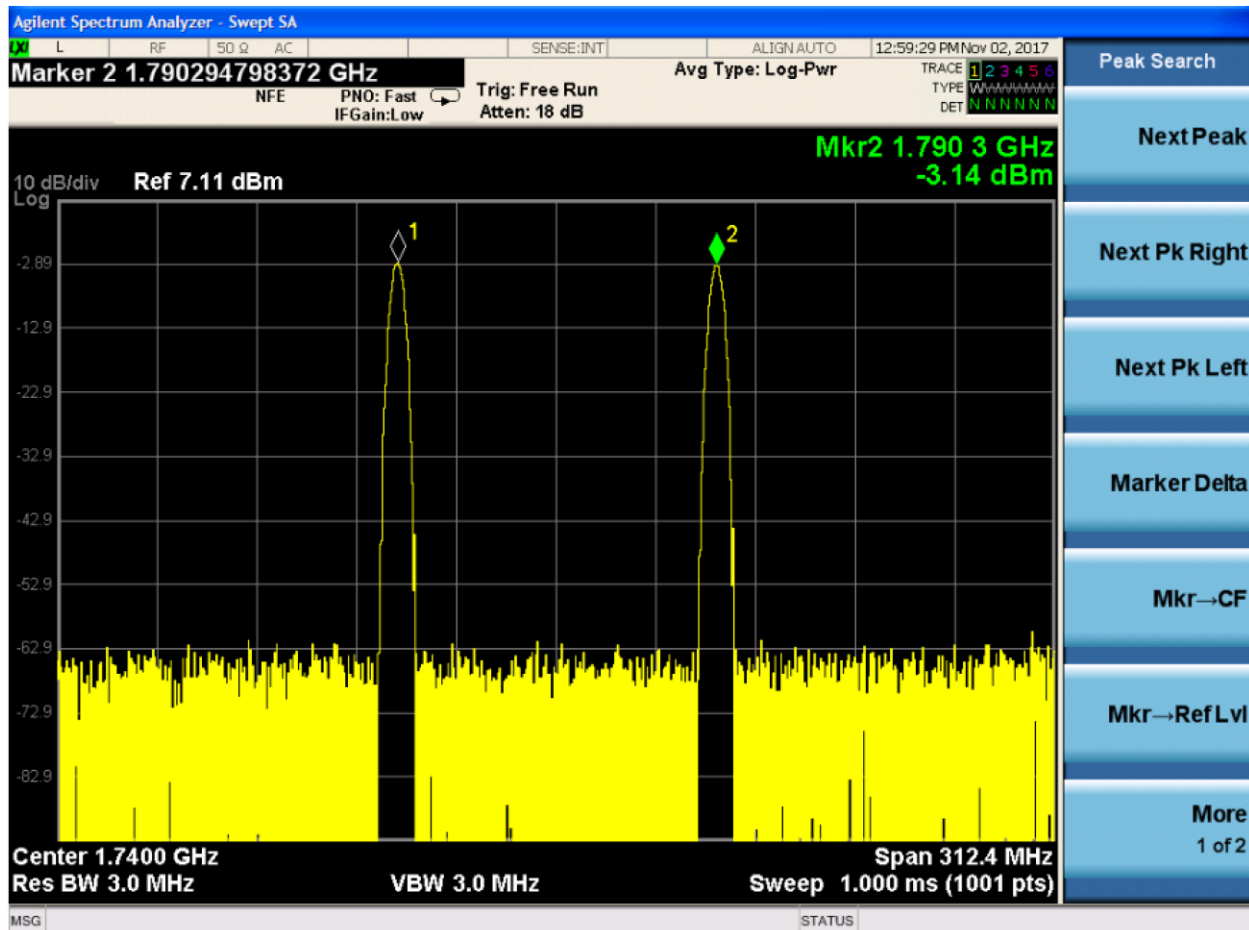

Figure 12. TXDAC Output Spectrum
12. The user can see IOUTA (J32), IOUTB (J23), IOUTC (J24), and IOUTD (J25) outputting two, 100-MHz separation tones centered at 1740-MHz RF frequency (see Figure 12).